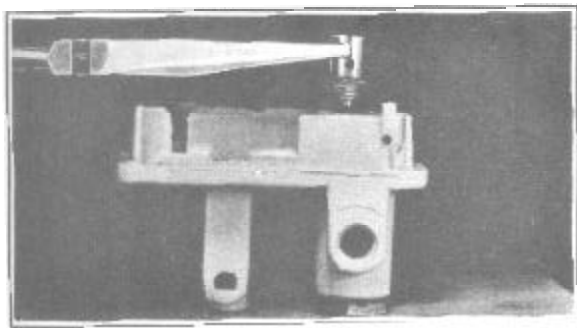

FIGURE 30
4. Install needle seat and gasket assembly, Figure 30. Check for wear. If either needle or seat shows wear, replace both.